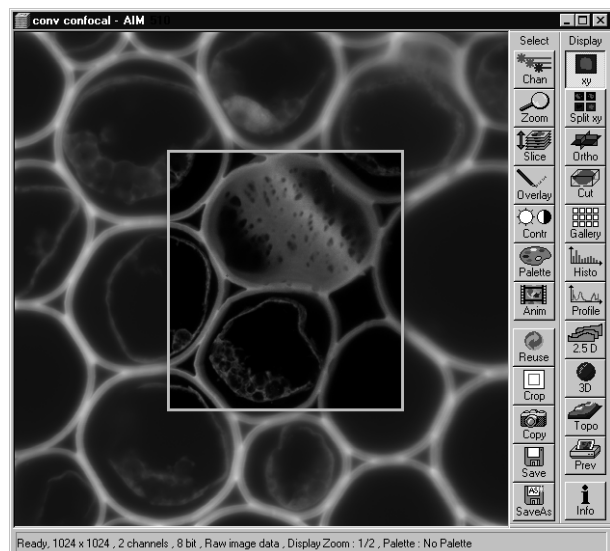

Fig. 5-356 Image Display window with confocal ROI
- The influence of the pinhole diameter on image creation is shown by the example in Fig. 5-356. The entire image was first scanned with too large a pinhole diameter. The pinhole diameter was then optimized for a defined ROI. This considerably improved the display of the specimen structures.